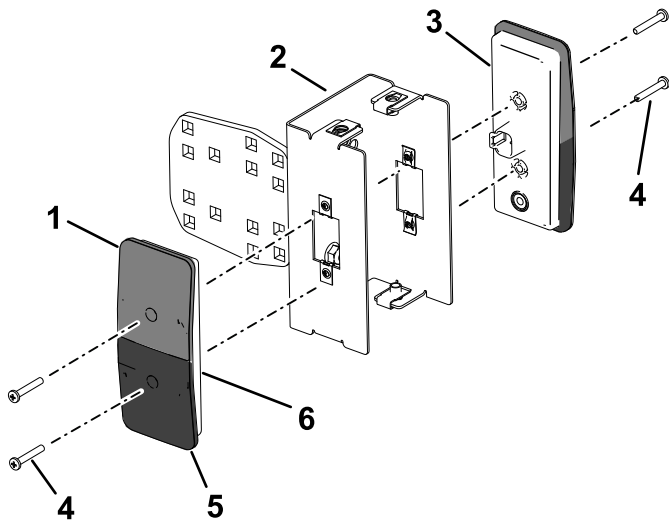

Figure 6
10. Align the front and rear lights to the light bracket with the yellow lens positioned as shown in Figure 6.
11. Install the front light to the front of the light bracket with 2 screws (#10 x 1-1/4 inches); refer to Figure 6.
12. Install the rear light to the light bracket with 2 screws (#10 x 1-1/4 inches); refer to Figure 6.